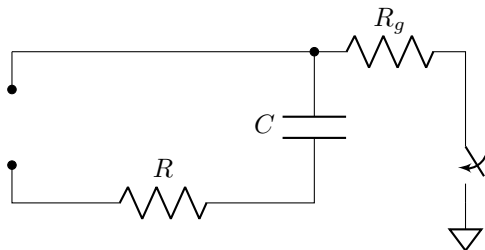
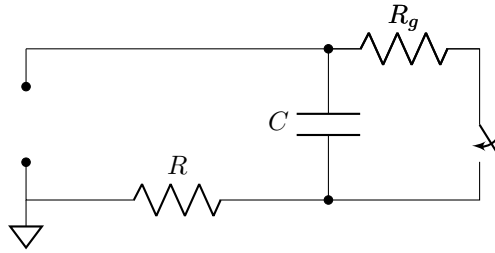

Figure 4: An RC circuit with a path to ground when the switch is closed. The voltage source is removed so no additional charge is being added to the circuit.
Figure 5: An RC circuit with a short to discharge the capacitor. The voltage source is removed so no additional charge is being added to the circuit.
In DC applications, once the capacitor is charged, there needs to be a way to discharge the capacitor if you want current to be able to flow again. There are ways to do this automatically, such as a transistor setup, but discharging the capacitor manually is also an option. As discussed with figure 4, creating a path to ground, or simply shorting out the leads on the capacitor will discharge the capacitor so it can be recharged. This can be done by physically removing the capacitor from the circuit, and then touching the two leads together, or by creating a short path around the capacitor in the circuit with a switch as shown in figure 5. This path can be done with a button, or simply a wire that is added or removed.
1. Using the values calculated in the prelab, construct your RC circuit in the fashion of figure 5. R_g is not necessary for the circuit as long as your total current does not exceed 250mA. Adjust your power supply for 5V, but do not turn on the output yet! Set your current limit of your power supply to 250mA.